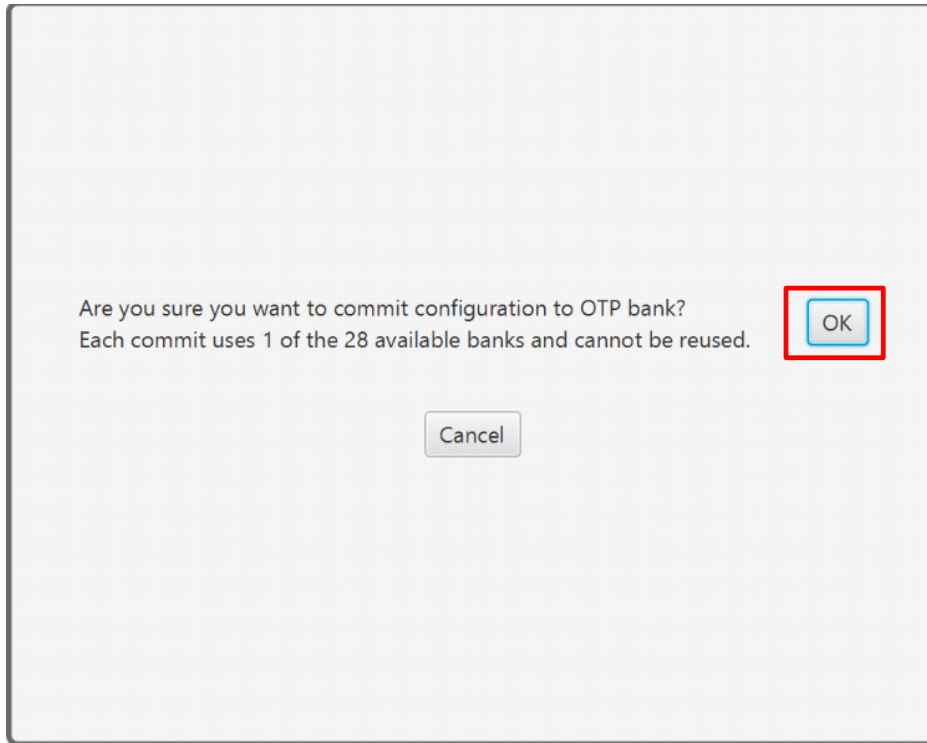

Figure 8. Confirmation to Use 1 of the 28 Available OTP Banks to Write to NVM
- 13. A window pops up (see Figure 8) for the user to confirm the use of 1 of the 28 available OTP banks to write to the NVM. Click **OK**.